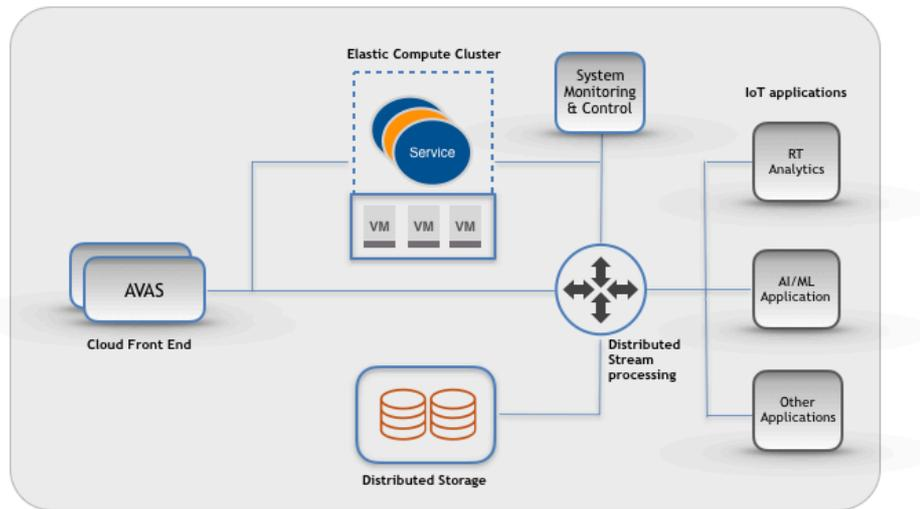

Figure 3. Avarana IoT Cloud
**Avarana IoT Cloud** has all the ingredients of a modern cloud including distributed and elastic compute, distributed event processing and a reliable and distributed storage as shown in figure 3.